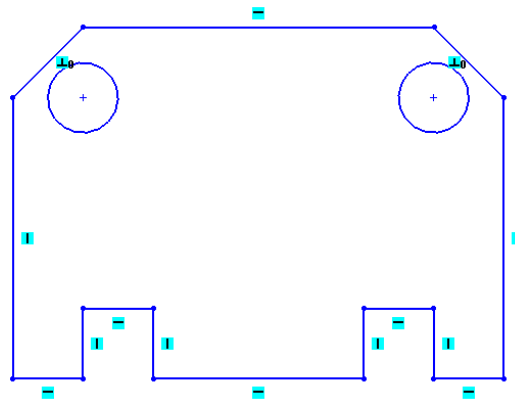

Figure 2-71 Sketch after drawing the two inner circles
- Similarly, draw the circle on the left using the inferencing lines generating from the endpoints of the left inclined line. The sketch after drawing the two circles inside the outer loop is shown in Figure 2-71.